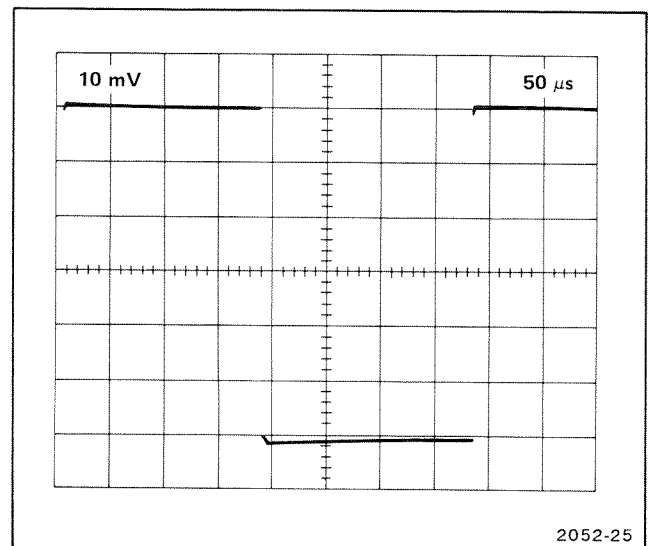

Fig. 6-1. Typical display of correct adjustment of R364, LF Comp.
g. ADJUST—R364 (L. F. Comp) for best front corner on square wave. See Fig. 6-1. This adjustment is to be made with coil L202 disconnected. Be sure to reconnect coil L202.